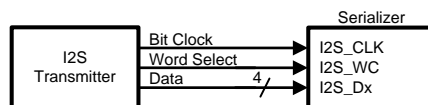
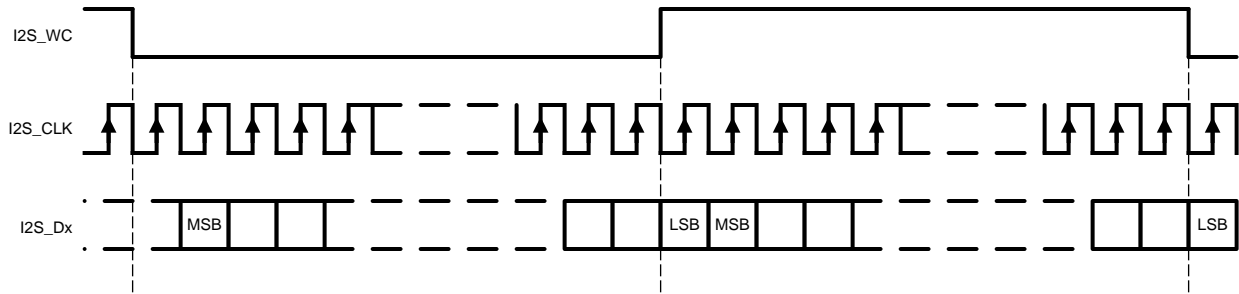

Figure 11. I²S Connection Diagram
Figure 12. I2S Frame Timing Diagram
The DS90UB929-Q1 serializer features six I²S input pins that, when paired with a compatible deserializer, supports 7.1 High-Definition (HD) Surround Sound audio applications. The bit clock (I2S_CLK) supports frequencies between 1 MHz and the lesser of IN_CLK/2 or 13 MHz. Four I²S data inputs transport two channels of I²S-formatted digital audio each, with each channel delineated by the word select (I2S_WC) input. Refer to Figure 11 and Figure 12 for I2S connection diagram and timing information.